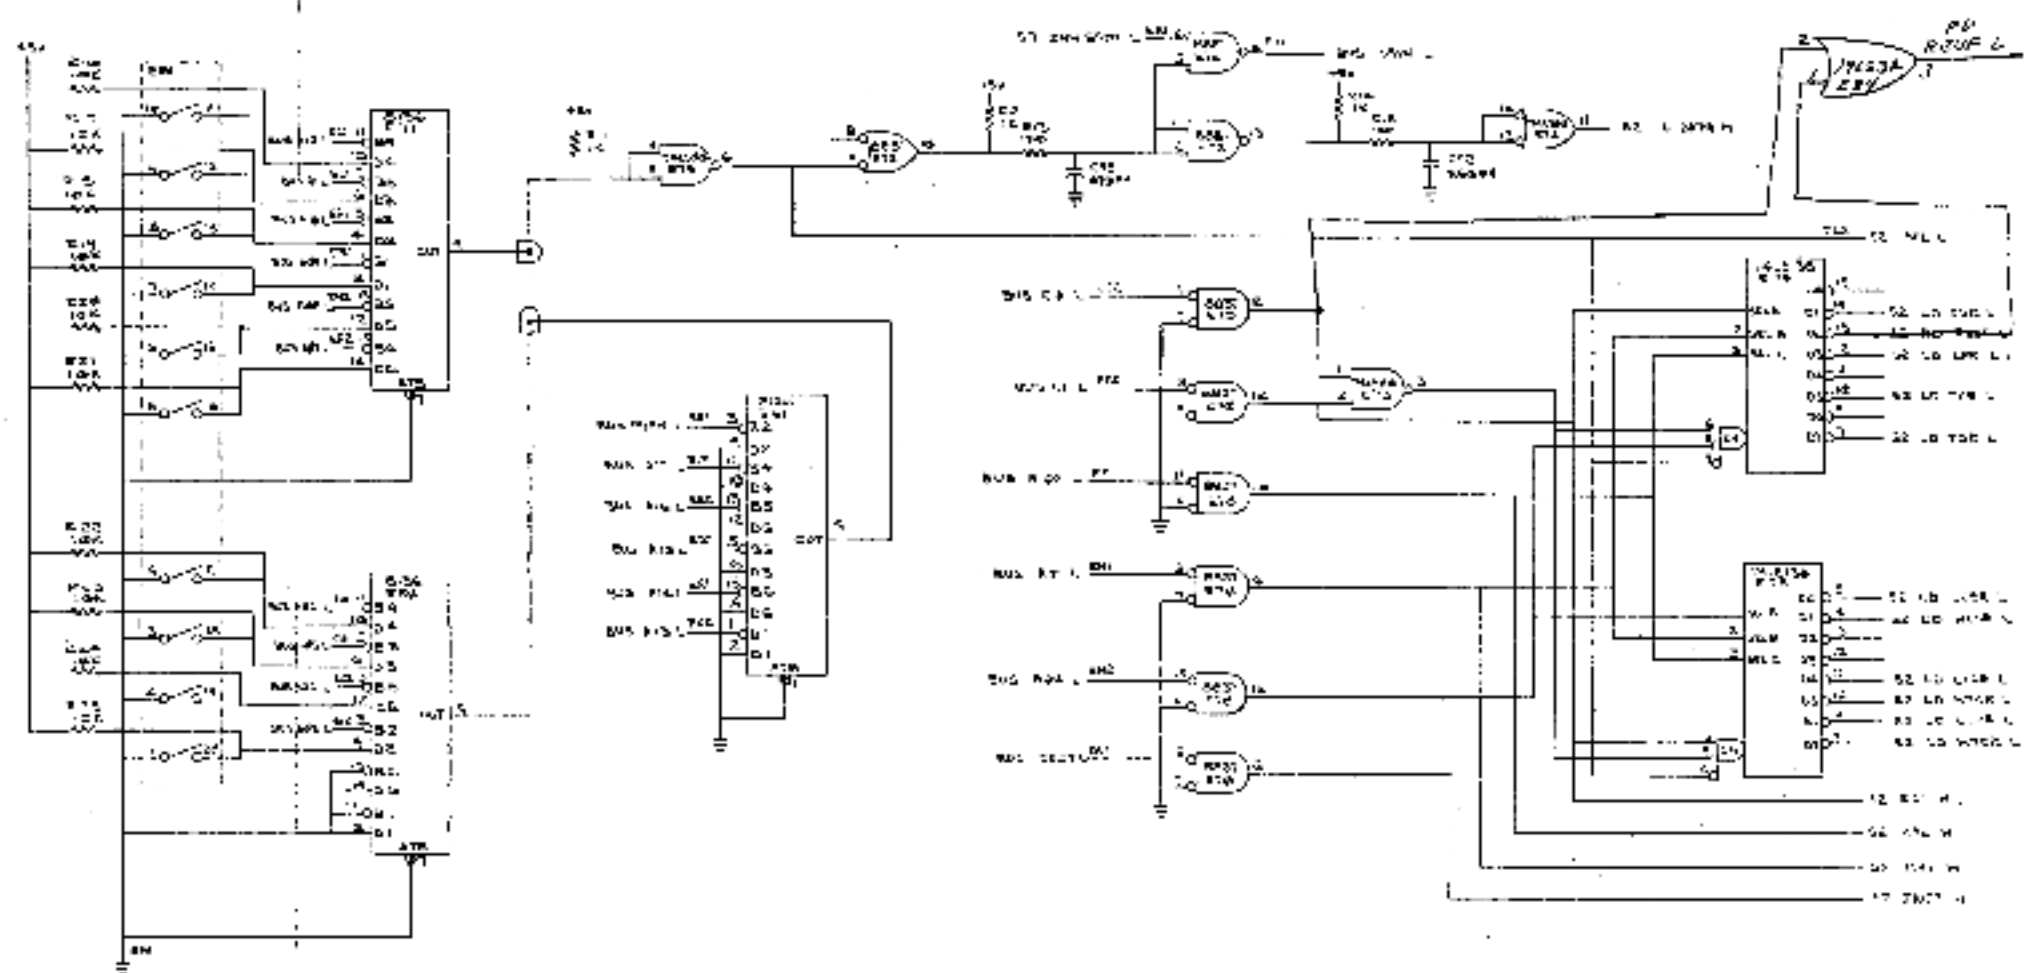

Figure 4-6 Address Selection Logic
4.2.1.1 Device Address Selection (Figure 4-6) - Three 6-bit comparators (DM8136) are in parallel with each other and provide a common output that is fed to a NAND gate (E73). These comparators (E71, E80, and E61) receive inputs from the Unibus. E71 and E61 receive Unibus inputs at B1-B6 and E80 receives Unibus inputs at B2-B5. These sixteen inputs are compared with their associated logic levels at the D inputs. The D inputs at comparators E71 and E80 are selected by ten switches at E81. An open switch produces a high at the corresponding D input and a closed switch produces a low. Each switch position is selected so that the comparators will accept only the appropriate address from the Unibus. The D1-D6 inputs at E61 are kept low by being hard-wired to ground. If the Unibus address bits match the preset address bits at E71 and E80, and the six Unibus inputs at E61 are low, with an asserted low at B2 (MYSN) from the Unibus, then a high output is generated at OUT 9 for each comparator. When all three comparator outputs are high, the NAND gate (E73) is enabled.
4.2.1.2 Register and Mode Selection (Figure 4-6) - Unibus address lines A(2:00) and control lines C0 and C1 are used to select the DZ11 register and establish the direction of the data transfer. Two decoders (74LS138) at E74 and E75 use the signals from the Unibus to generate the register select signals. E74 produces a load pulse (DATO bus cycle) and a read pulse (DATI bus cycle). The load pulse is routed to each register, and the read pulse is sent to the receive scanner control. E75 generates two pulses for each register, excluding the LPR. The signals from E74 are used only during a word operation. For byte operations, one pulse from E75 is used to load the low byte of a word and the other pulse loads the high byte. When a byte operation is performed, only one of the signals from E75 is used as in a DATOB cycle.